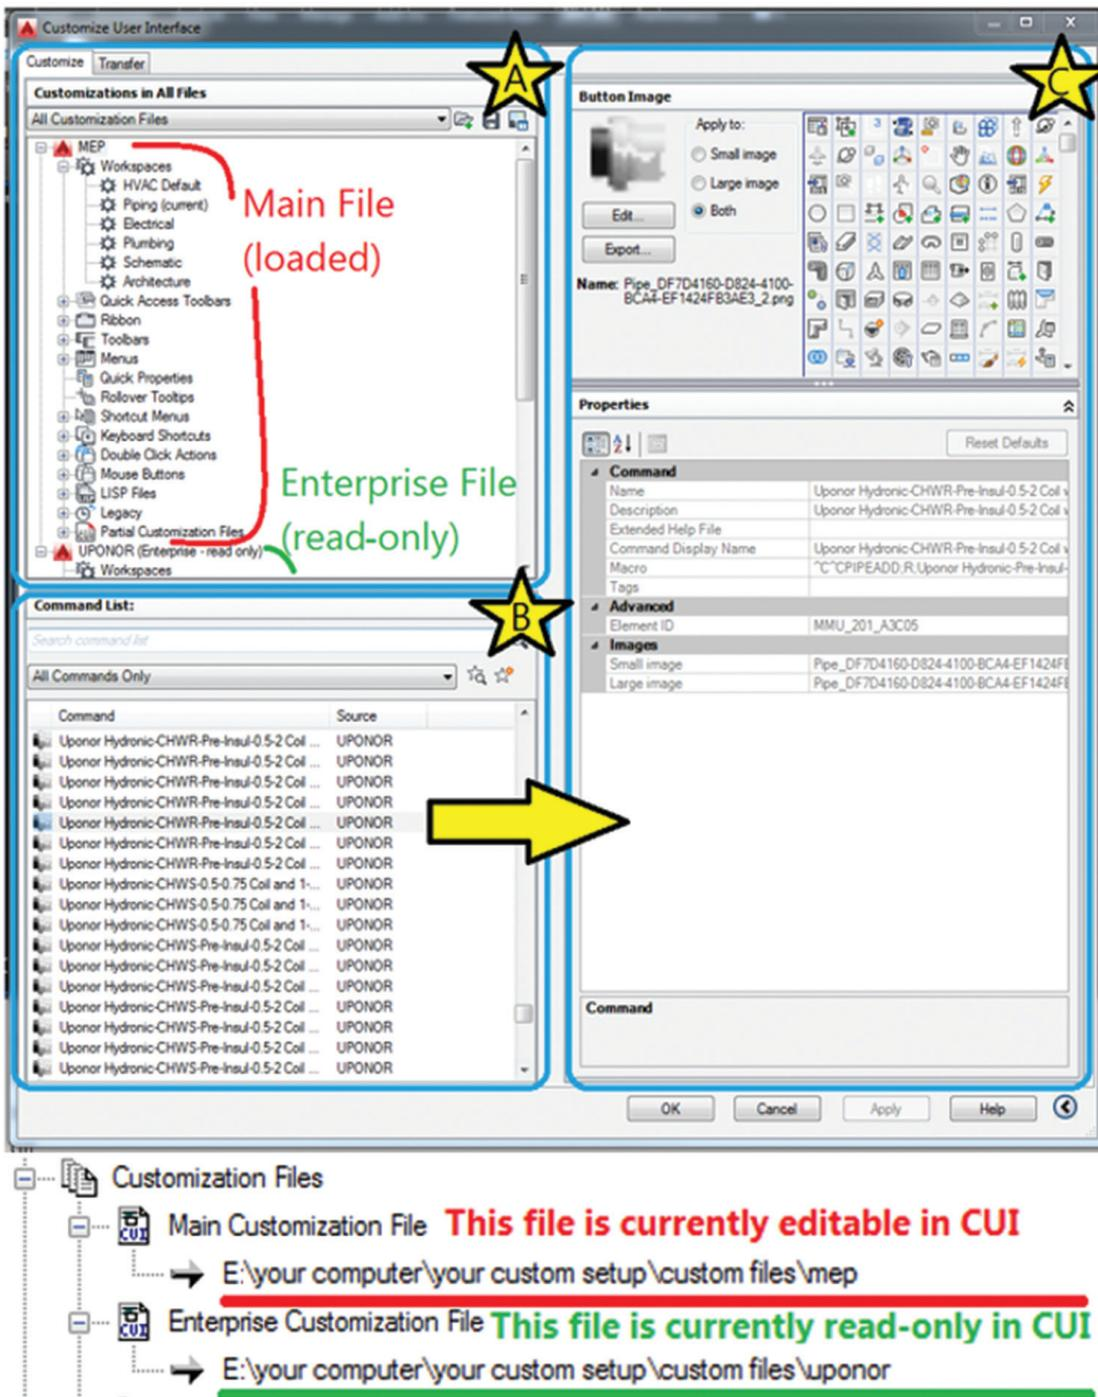
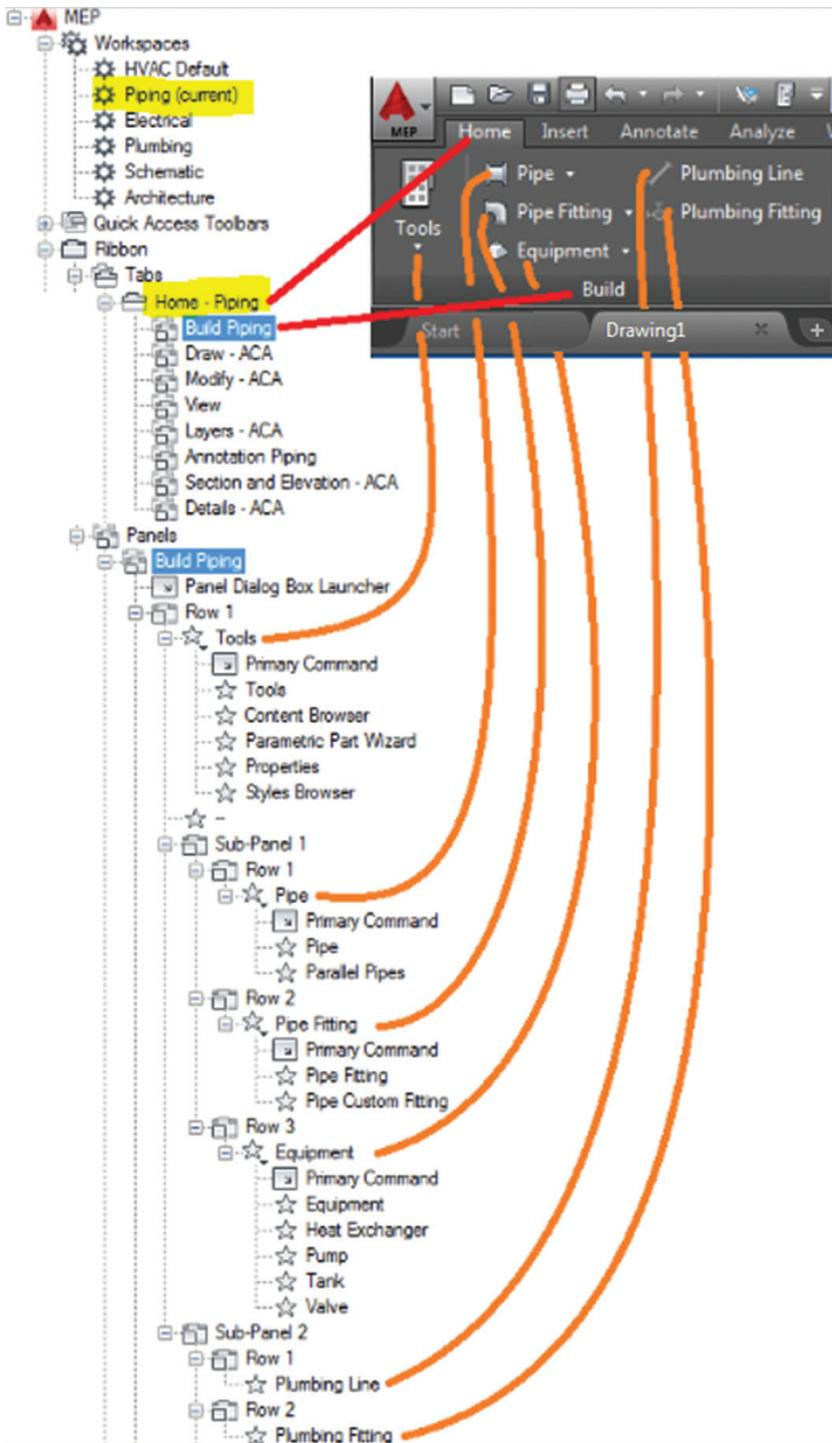

Figure 1: CUI Editor overview
Figure 2: CUI editing example
file that will roll out the customizations. To access the CUI Editor, simply type CUI in the command line (see Figure 1).
A. This section displays CUIx files as well as a tree of all areas to customize. Figure 1 shows a Main CUIx file and an Enterprise read-only CUIx file loaded. If I want to edit the Enterprise file where all my customizations are, I need to designate it as the main CUIx in AutoCAD Options > Files > Customization Files as shown in Figure 1. In other words, I just browse out to the file in AutoCAD Options, so it becomes editable in the CUI Editor.
C. This section includes all the properties associated with any given command in your command list. They may appear grayed out if they were created while your Enterprise file was being edited (which is the case in Figure 1). However, when the fields are not grayed out and that CUIx is editable, they can be edited. When I create a “custom” command, I specify the following:
Now that we have an overview of the CUI Editor and its components, let’s look at how it affects the end user experience. See Figure 2 for an example of how the components in the CUI Editor make up the
Figure 2 shows how each tool or command is organized and grouped in the CUI Editor to appear a certain way in the ribbon. Commands are listed as stars; you can drag and drop from Section B to Section A and establish hierarchies of tools by right-clicking within Section A for different options (refer to Figure 1).